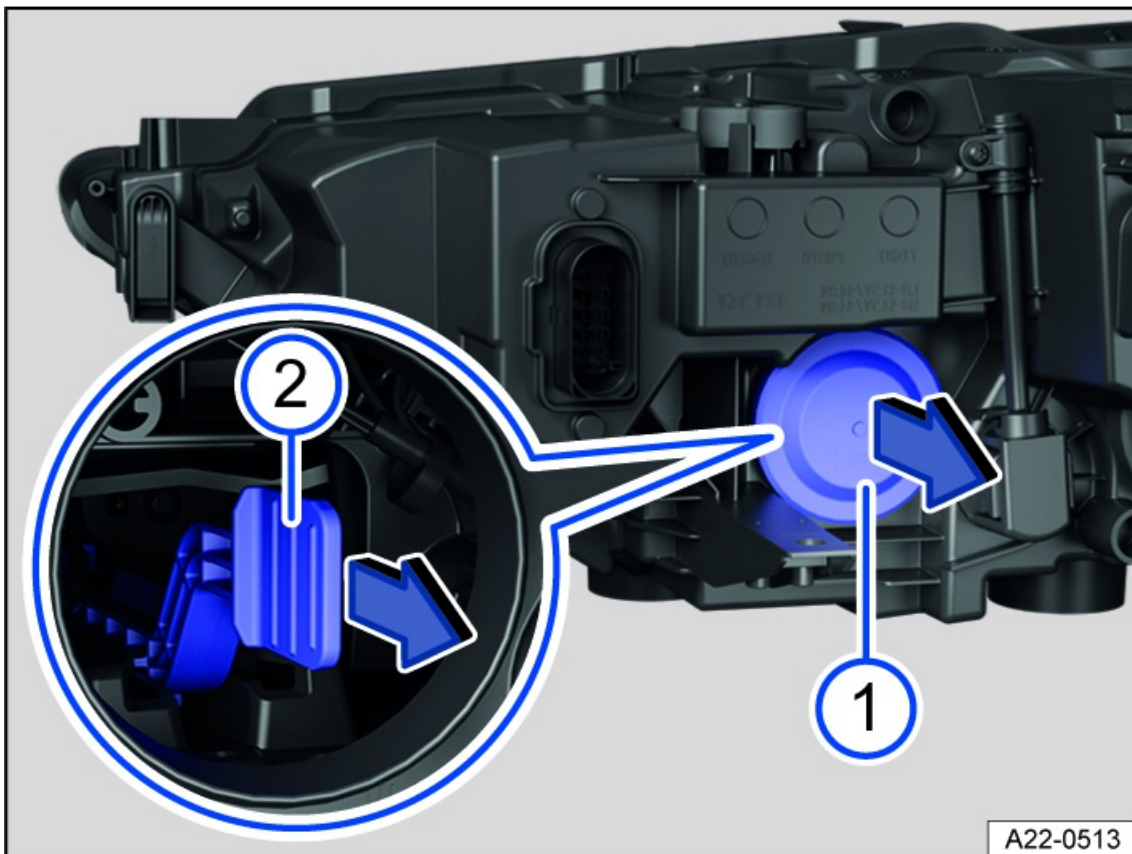

Fig. 142 In the right-side of the engine compartment: Rear side of the headlights.
- ① Turn signal bulb holder cover.
- ② Turn signal bulb holder.
1. Remove the rubber cover *fig. 142* ①.
2. Pull out the lamp holder by the handle in the direction of the arrow *fig. 142* ②. At the same time, press the handle slightly up and down alternately, in order to aid removal.
4. Carefully insert the lamp holder in the headlight and press it forwards until it perceptibly engages *fig. 142* ②.